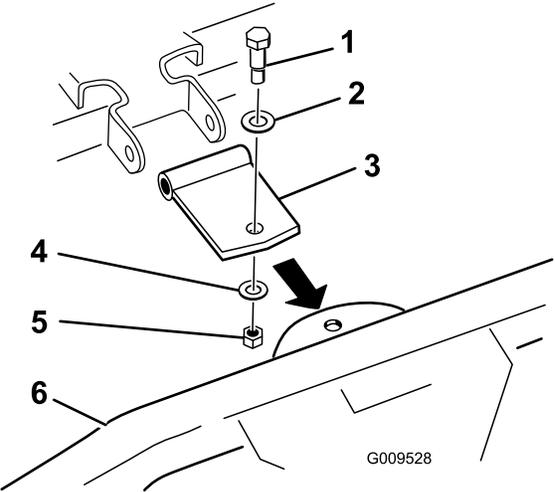

Figure 4
- Use the straight pivot bracket, as shown in Figure 4, if the bracket on the end of the tooth rake faces downward. Discard the curved pivot bracket.